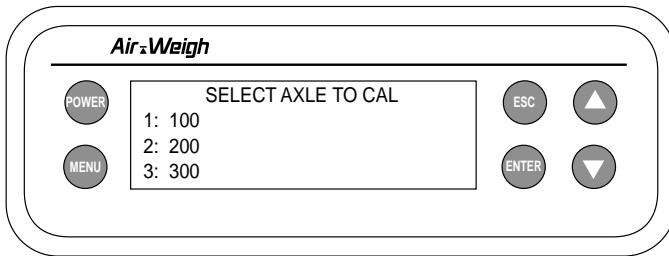

Fig. 15
5. Use the arrow keys <▲ ▼> to select axle number, press <ENTER>. (See fig. 15)